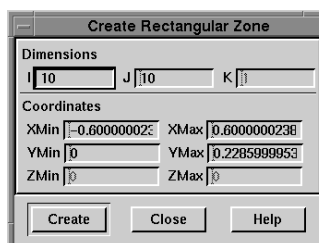

Figure 24-7. The Create Rectangular Zone dialog.
3. Drag until the boundary of the zone is as desired, then release. The Create Rectangular Zone dialog appears (see Figure 24-7) with the X and Y extents for the rectangular zone already filled in. You can adjust the I- and J-dimensions and the X- and Y-coordinates.
1. From the Data menu, choose Create Zone, then Rectangular. The Create Rectangular Zone dialog appears, as in Figure 24-7.